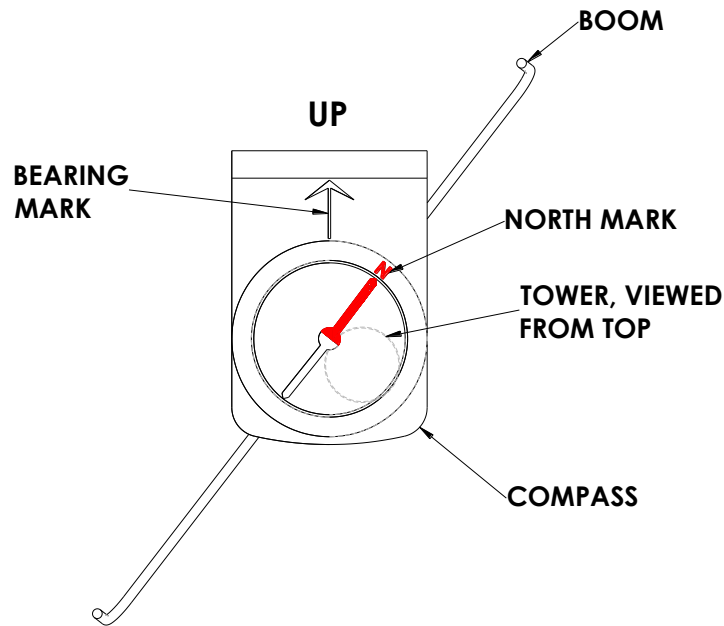

Figure 3
5. Sight through the compass so the center of the compass is over the point where the boom contacts the tower, with the bearing mark still straight up. See Figure 3.